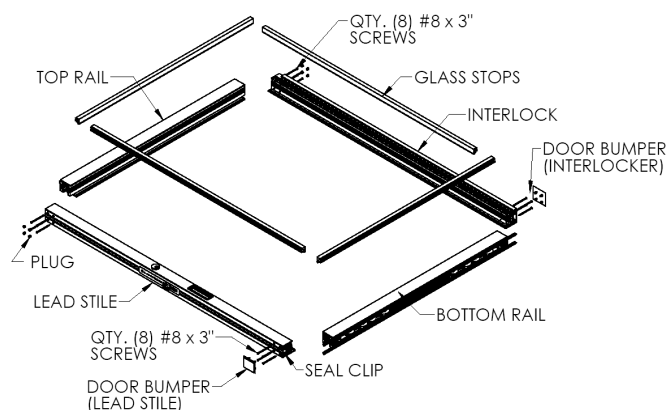
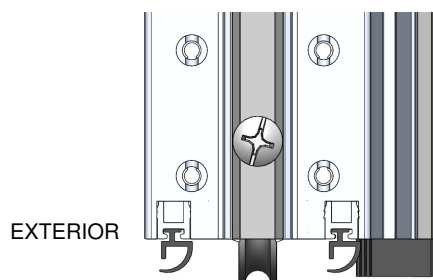

Figure 8:
Figure 9:
- Fasten the stiles to the rails with #8x3" flat head screws (8 per side), repeat for opposite side (Figure 8). It is recommended that wax is used on all fasteners to reduce the drive torque. Ensure the Roller adjustment holes and rollers align (Figure 9). Place the plugs over screw holes.
- Cut the vinyl in the bottom rail flush to the vertical stiles and secure using the clips provided (Figure 9) once the vinyl is secured, crimp the vinyl in place.